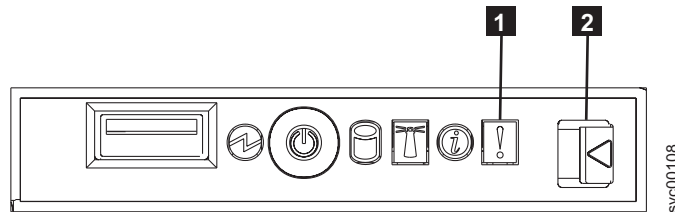

Figure 210. SAN Volume Controller 2145-8F4 operator information panel
4. Press the operator panel release latch (2 in Figure 210 on page 539) and slide the operator information panel away from the SAN Volume Controller 2145-8F2.